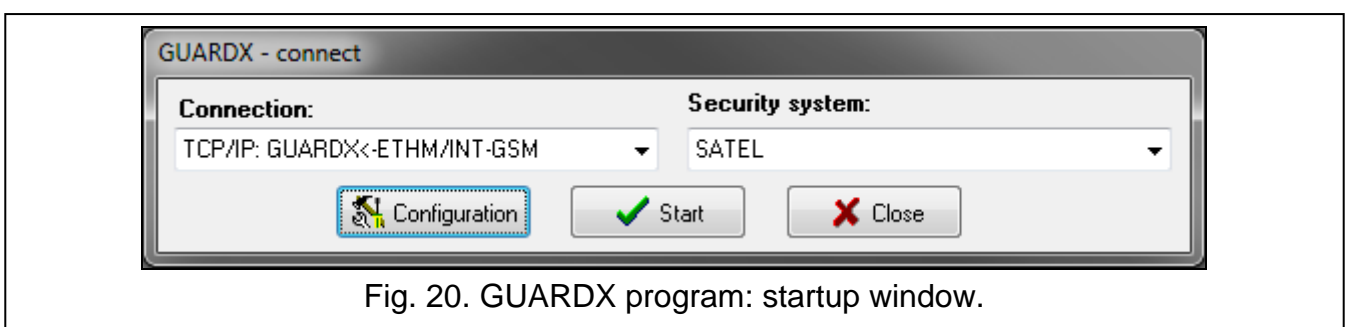

Fig. 20. GUARDX program: startup window.
To configure the settings related to communication with the alarm system, click on the “Configuration” button in the startup window of GUARDX program (Fig. 20).
1. In the startup window (Fig. 20), “Connection” field, select “TCP/IP: GUARDX<-ETHM/INT-GSM” and then click the “Start” button. This will display a window with information that the program is waiting for connection.
1. In the startup window (Fig. 20), “Connection” field, select “TCP/IP: SATEL server” and then click the “Start” button.